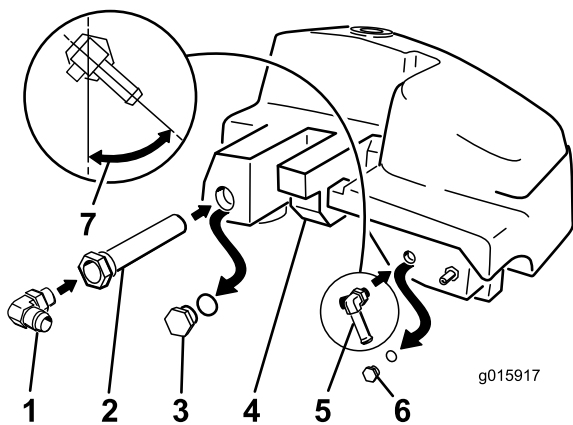

Figure 9
4. Install the small 90-degree tee with barb where the small plug was removed (Figure 9).